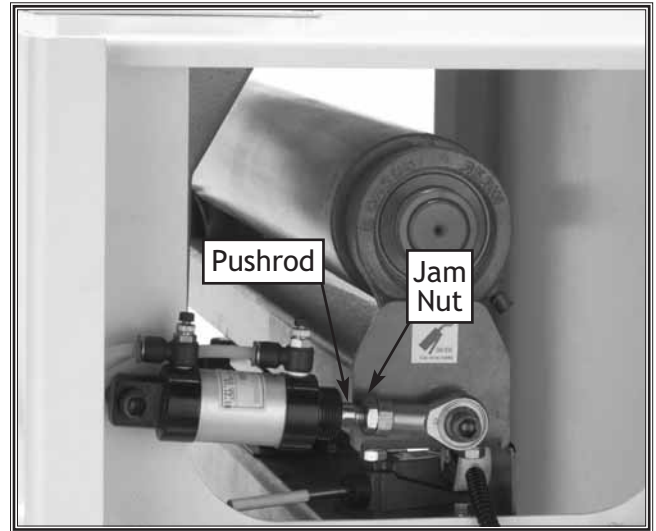

Figure 14. Belt tracking adjustment location.
The belt tracking is adjusted by lengthening or shortening an air cylinder pushrod (Figure 14). This adjustment is responsible for keeping the belt in “same-speed” left-to-right motion during sanding. Your goal is to adjust the pushrod length until the belt left-and-right movement takes approximately the same amount of time.
- If the belt tracks faster to the right, but is slow to track back to the left, loosen the jam nut and rotate the pushrod to lengthen the rod until the tracking is correct. See Figure 14.
- If the belt tracks faster to the left, but is slow to track back to the right, loosen the jam nut and rotate the pushrod to shorten the rod until the tracking is correct. See Figure 14.